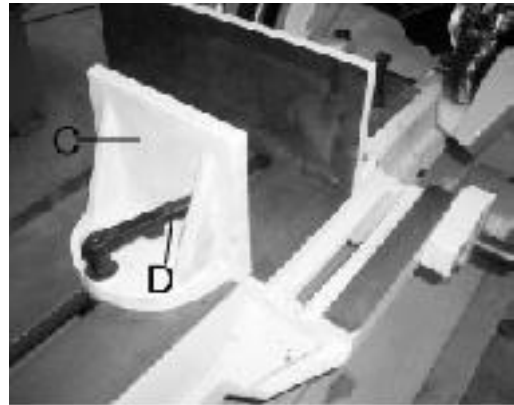

Fig.15
5. Pivot the right vise jaw (C) all the way to the left as shown in Fig.15, and lock spring loaded clamp handle. (D)
6. Using a combination square (E), place one end of the square the vise jaw and the other end against the blade, as shown in Fig.15. And check to see if the vise jaw is at 45 degrees to the blade.